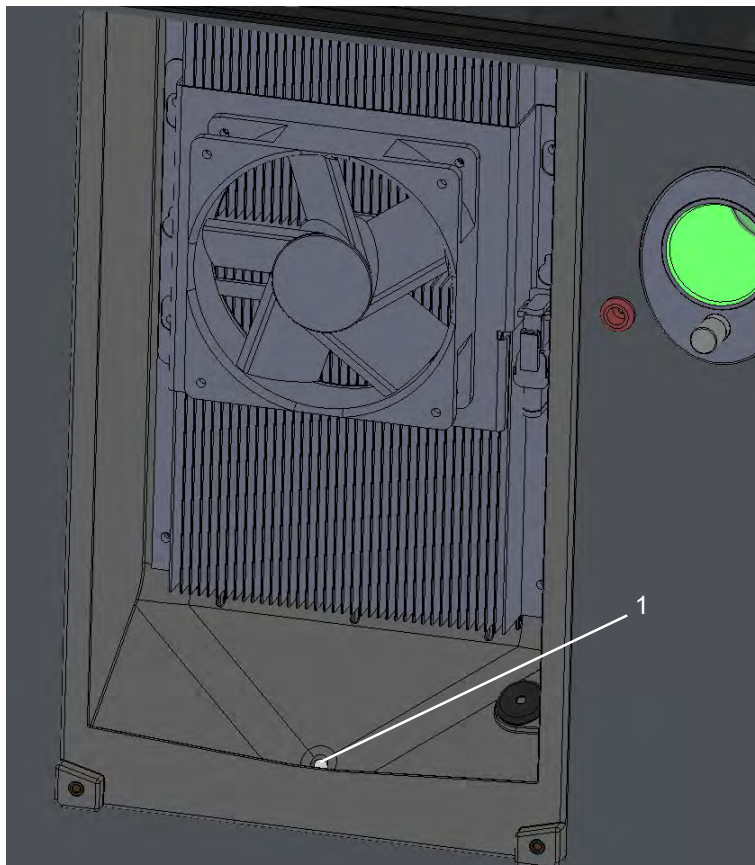

Figure 8-2. Cleaning Condensate Drain - 2
3. Clean the condensate drain (Figure 8-2, 1) with a suitable brush.